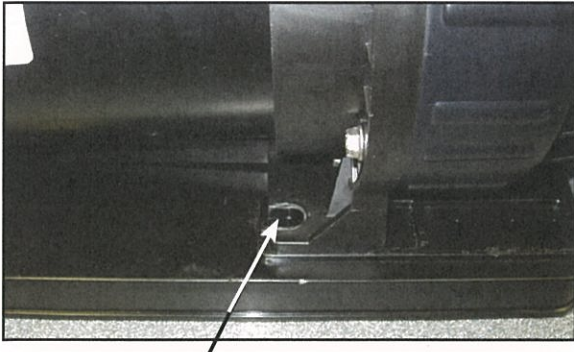

Figure 7 — Plastic pump housing mount
- Pumps with plastic pump housing mounts (see Figure 7) should be attached by aligning the openings with the holes outside the raised area (see Figure 8A). This type of mount will require the use of TWO mounting bolts from the hardware bag.